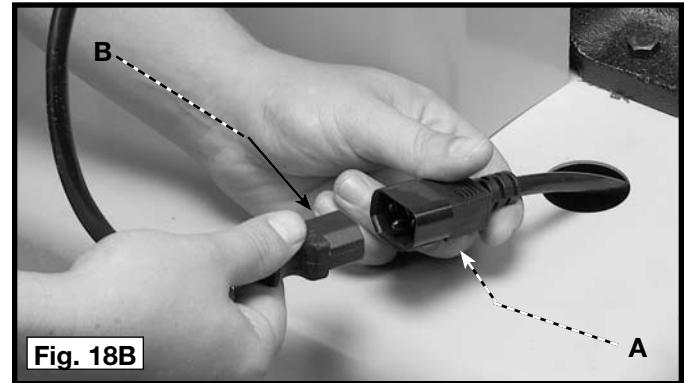

Fig. 18B
Insert the motor plug (A) Fig. 18B into the receptacle (B) of the switch-to-motor cord.